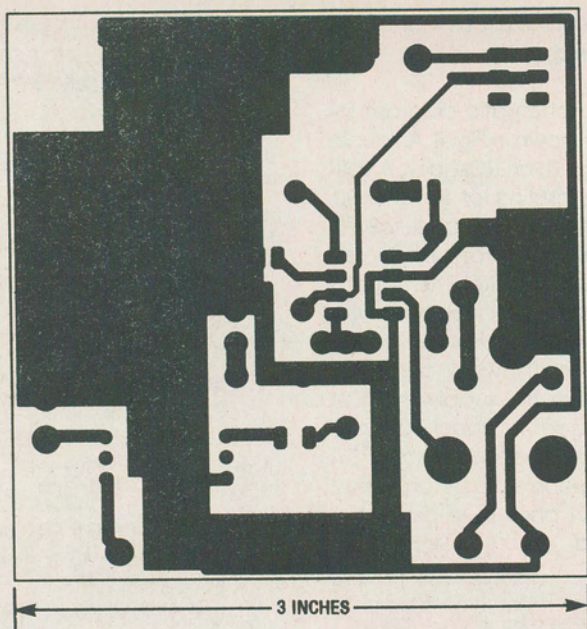
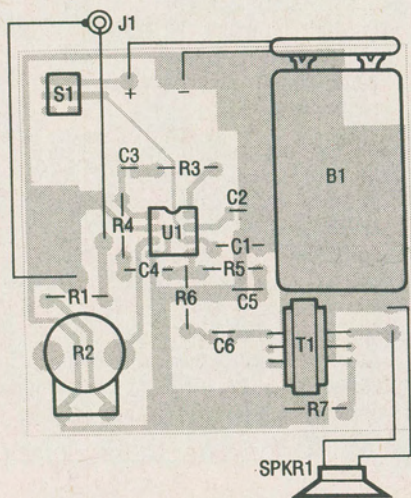
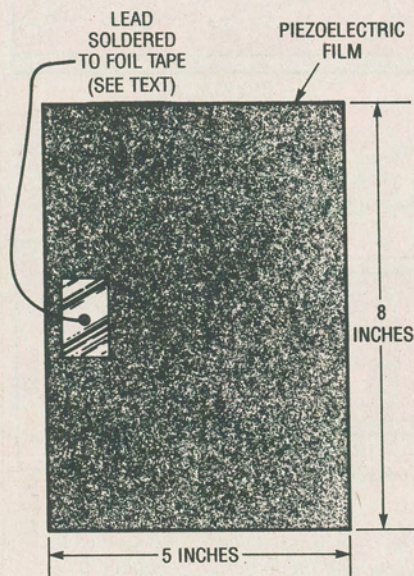

Fig. 5. You can make your own printed-circuit board from this foil pattern.
Fig. 6. Solder the components to the board using this parts-placement diagram as a guide.
Fig. 7. Solder a lead to a piece of copper-foil tape and then stick the tape on the piezoelectric film.
**Construction.** It's a good idea to use a printed-circuit board for this project. You can make your own from the foil pattern provided in Fig. 5, or use the board that comes with the kit. You could also probably get away with using a piece of perfboard. If you use a printed-circuit board, solder the parts to the board as shown in the parts-placement diagram in Fig. 6.
nections as shown in Fig. 6. Then you have to use an adapter cable to supply an input signal to J1, depending on the source that you're using.
The speaker is made from a piece of piezoelectric film that measures 5 by 8 inches. When making electrical contact with the piezoelectric film, you *cannot* just solder a lead directly to the film, because the solder will melt right through it. You have to use some copper-foil tape with a conductive adhesive backing; that tape is normally used to repair PC-board traces. Solder a lead to a piece of copper-foil tape and then stick the tape on the piezoelectric film, as shown in Fig. 7. Do the same on the opposite side of the film in the same position. The speaker leads—any length of stranded insulated wire—are soldered to the points indicated in Fig. 6, with the lead on the exposed surface of the film going to the upper speaker pad.